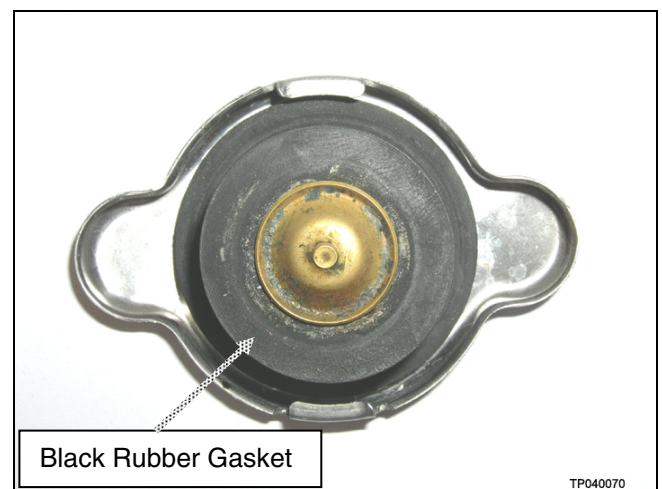

Figure A2
- B. If the Metal Plunger cannot be seen around the edge of the Black Rubber Gasket (see Figure A2), the radiator cap must be replaced.